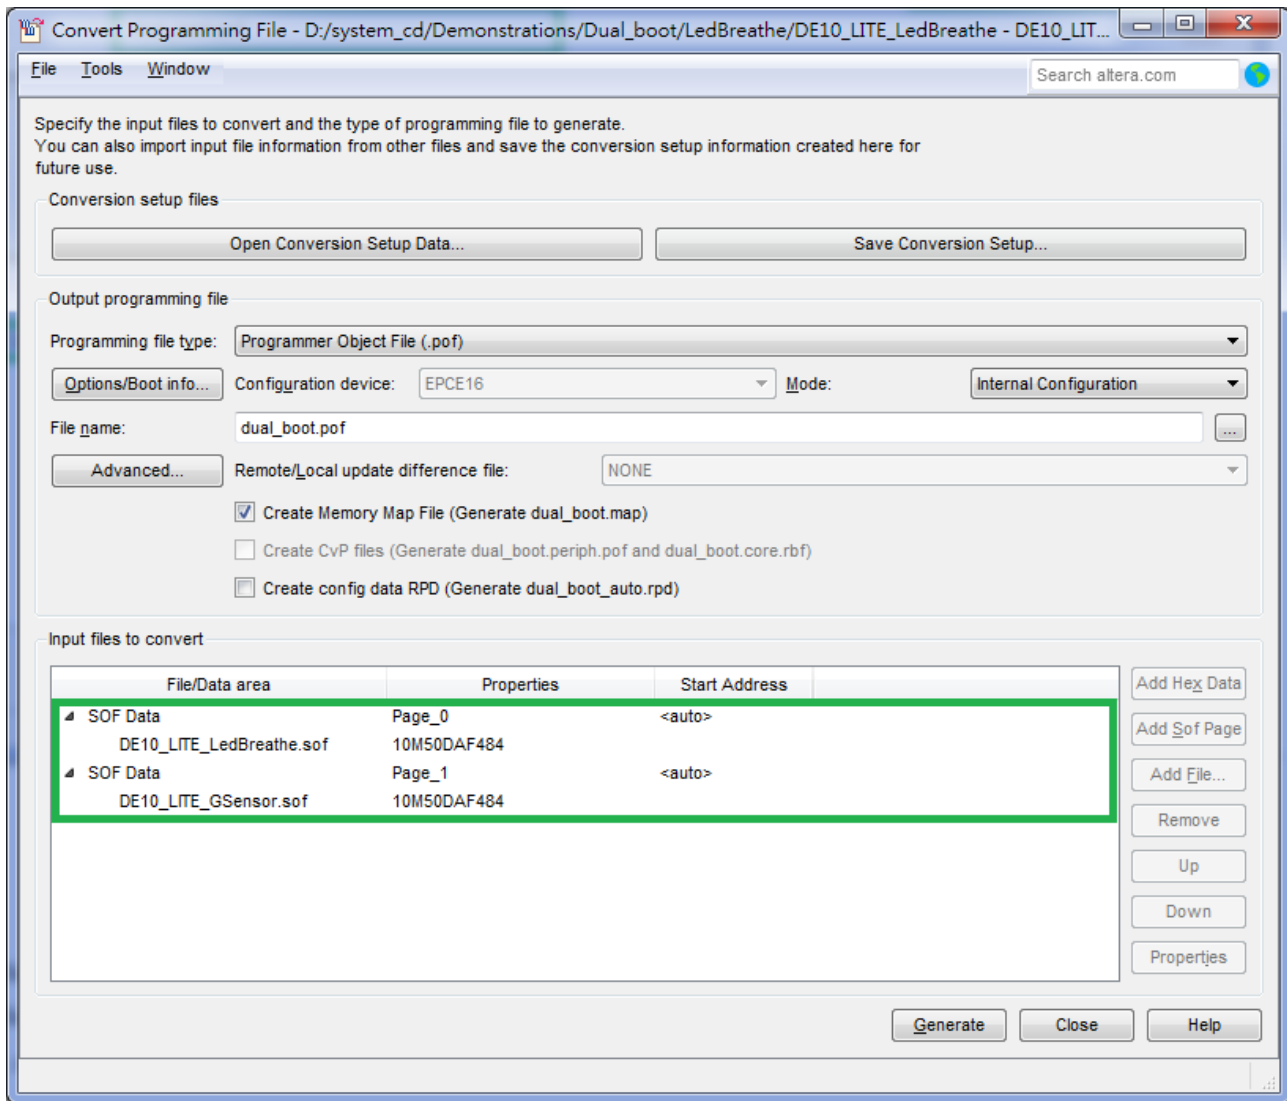

Figure 6-15 Add sof page and sof file
7. Click **Add Sof Page** to add Page_1 and click **Add File**, Select the DE10_LITE_GSensor.sof of GSensor demo to be the .sof data of Page_1 as shown in **Figure 6-15**.